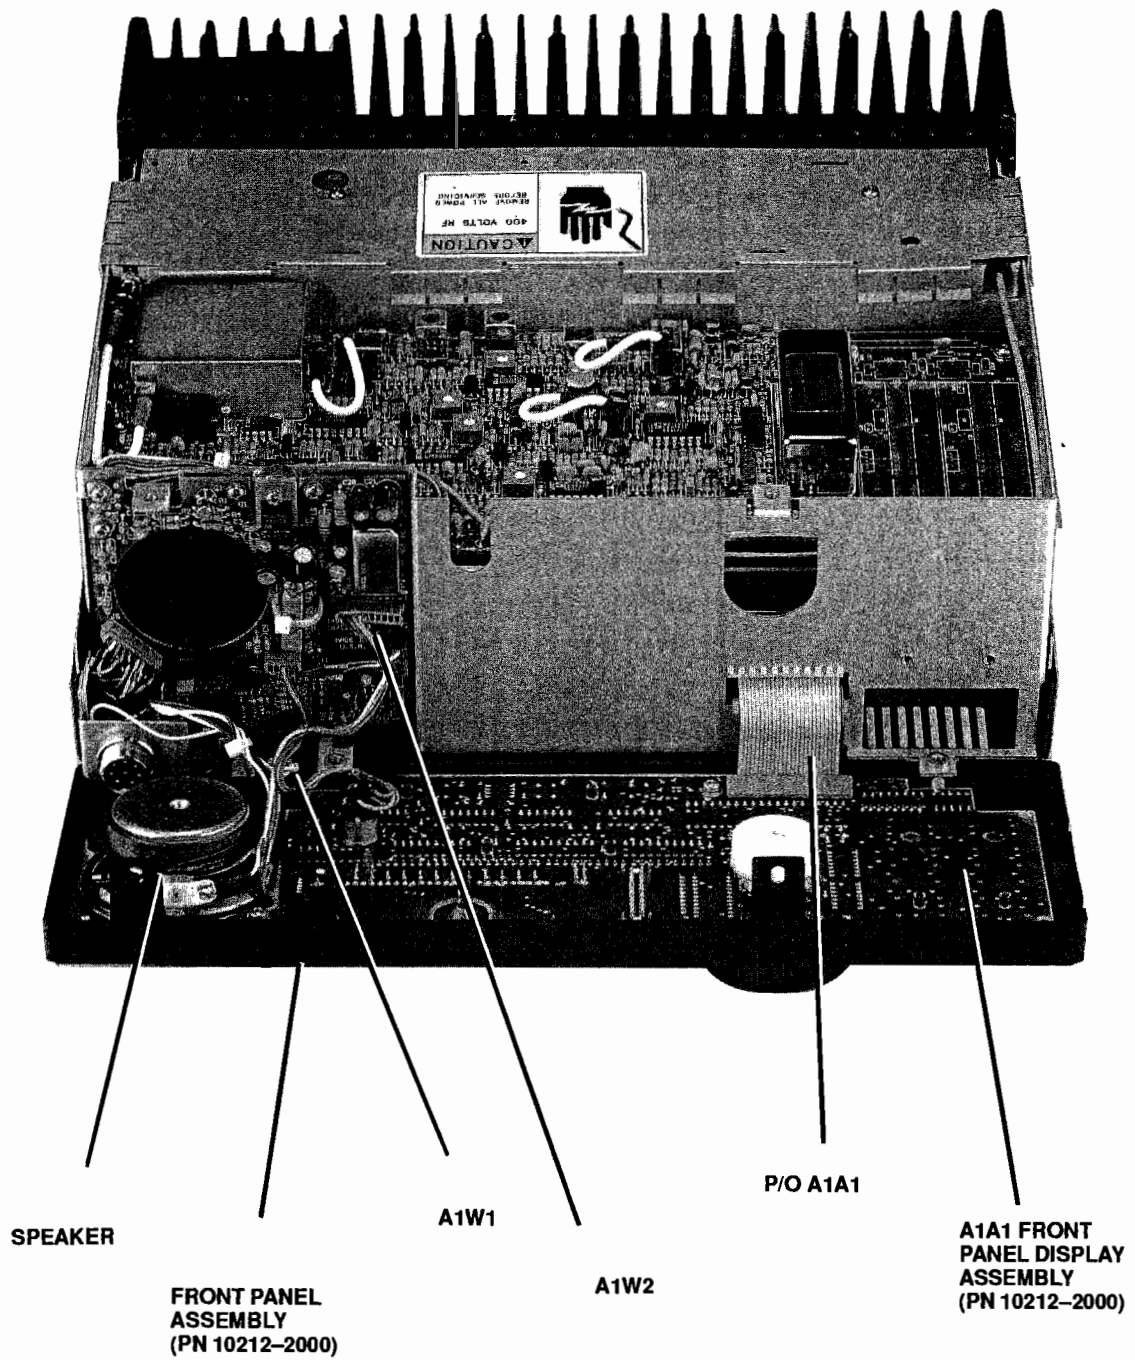

Figure 2. A1 Front Panel Assembly Component Locations
- Figure 2 - A1 Front Panel Assembly Component Locations (10212-2000)